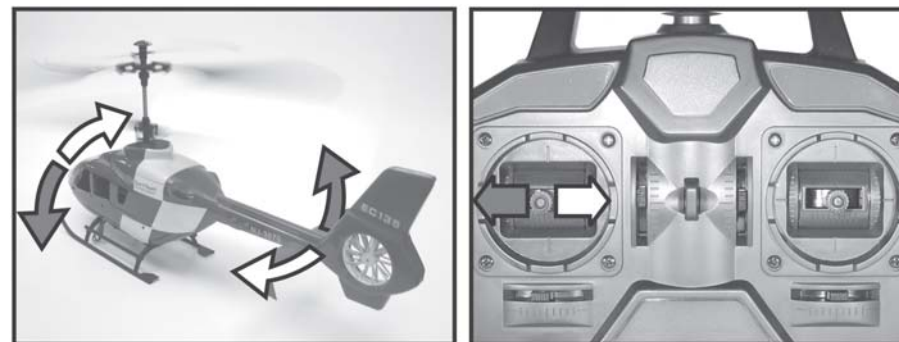

Figure 10
To allow the model to turn around the yaw axis (rotor shaft), the two main rotors run at slightly different speeds and the model begins to turn (see figure 10). The tail function is controlled with the left-hand control stick (see figure 1, item 11). If the lever is pushed slightly towards the left, the tip of the fuselage turns towards the left. If you steer towards the right, the tip of the fuselage turns likewise towards the right.